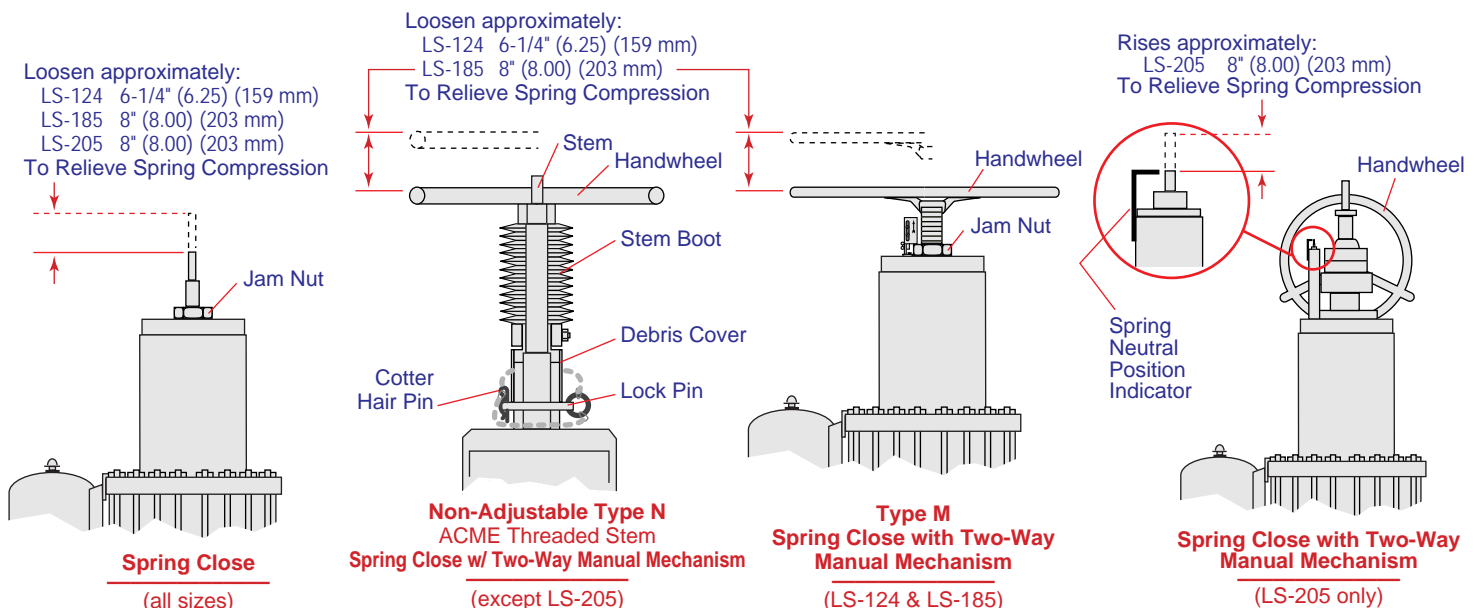

FIGURE 38
3. Refer to Figure 38 below. Loosen the jam nut (Note: LS-205 with manual two-way mechanism does not have a jam nut). Release the spring compression by turning the spring adjusting screw or handwheel counterclockwise until it turns freely. (This relaxes the spring compression.)
3. Refer to Figure 38 below. Remove lock pin. Release the spring compression by turning the spring adjusting screw or handwheel counterclockwise until it turns freely. (This relaxes the spring compression.)